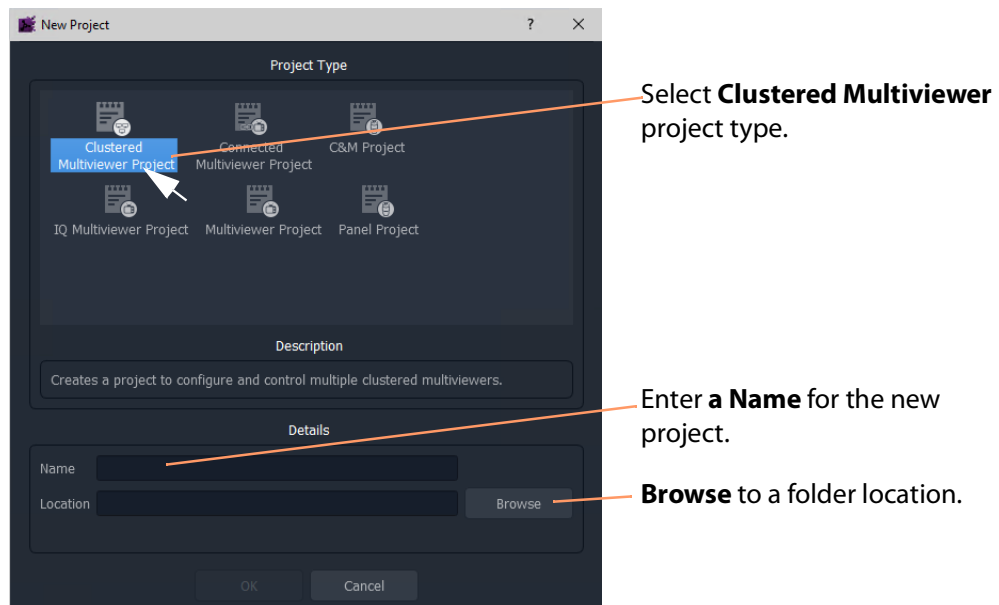

Fig. 7-3: New Project Dialog
- 3 Select the **Clustered Multiviewer** project type. (See Figure 7-3.)